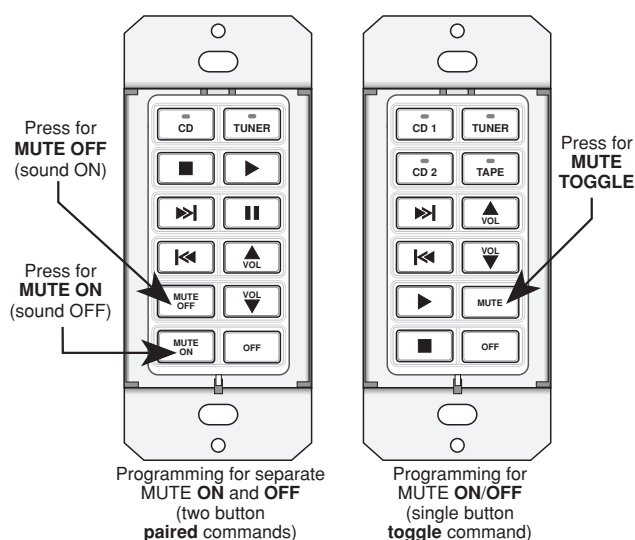

Fig. 24
- Within 3 seconds, press the button on the SmartPad₃ where you want Relay **Mute ON** (i.e. a MUTE ON button. See Fig. 24). The active **Source** button LED **will flash twice** to confirm your action.
16. You may now test the Mute buttons that you chose on each keypad to determine proper functioning. Refer to **Fig. 24**.
20. At this point, simply wait for the active **Source** button LED to **flash twice, then four times, without** pressing any more than one key on SmartPad₃. The SmartPad₃ will now only respond to the Relay **MUTE TOGGLE** command from that one key. See **Fig. 24**.